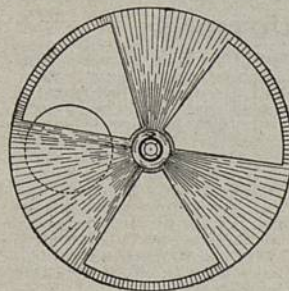
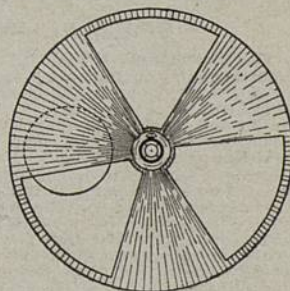

Fig. 26
Fig. 27
**To Set the No. 3 Shutter.** Place the shutter on the shutter shaft, as shown in illustration. It is held in place on the shaft by a thumb nut on the end of the hub. The shutter consists of three wings, one of which is larger than the other two. The large wing is intended to cut off the light while the film is in motion and the other two serve as interrupters for the reduction of flicker. To set the shutter in time with intermittent film sprocket, loosen the thumb nut on the hub of the shutter, and small screw in center of hub, take hold of the balance wheel and turn the mechanism very slowly in the same direction as when in operation until the intermittent sprocket begins to move. Set the top edge of the large wing so it is about  $\frac{1}{4}$  of an inch above the center of the lens. (See Fig. 26). Now turn the balance wheel until the intermittent sprocket stops then see that the lower edge of the large wing of the shutter is about  $\frac{1}{4}$  of an inch below the center of the lens. (See Fig. 27). The shutter should be set as far back on the shaft as is practicable, that is, not to exceed about  $\frac{1}{4}$  inch from the front of the lens mount. When properly located tighten the thumb nut on the shutter hub, and small screw in center of hub. When long focus lenses are to be used, the shutter may be reversed on the shaft, that is, the hub and thumb nut placed at the rear. This will make it possible to set the shutter well to the front, so as to pass in front of a long focus lens.